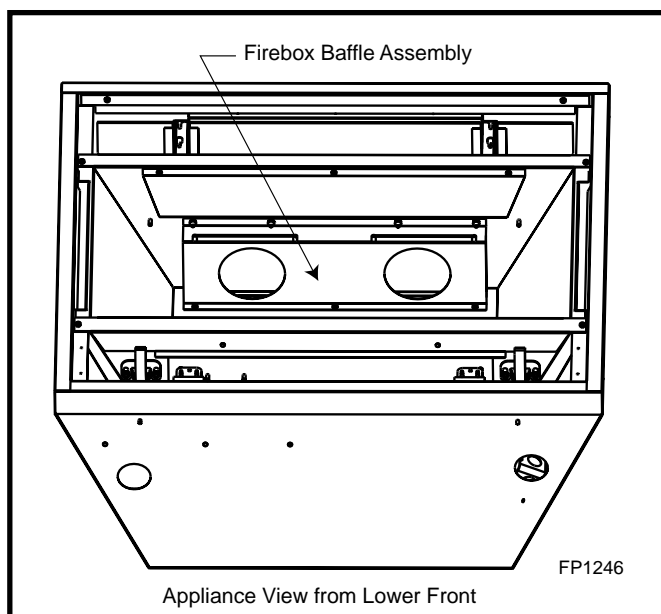
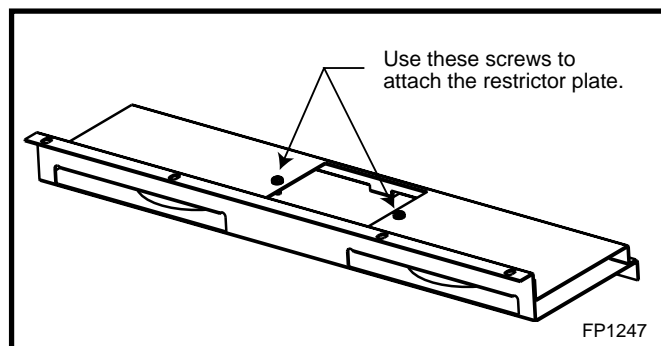
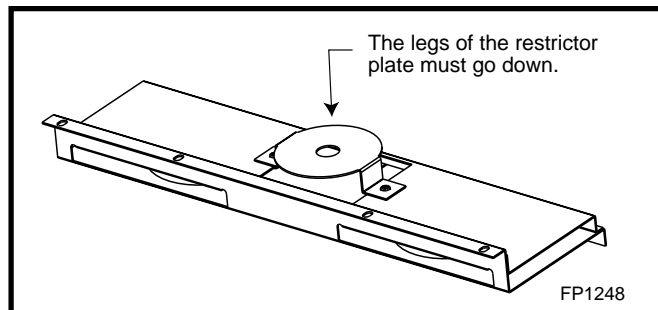

Fig. 27 Firebox baffle assembly.
Fig. 28 Remove two (2) top screws, then place restrictor plate.
Fig. 29 Place restrictor with legs pointing down.
2. Locate the firebox baffle assembly in the top rear area of the firebox. (Fig. 27)
3. Remove the four (4) nuts along the front edge, and the three (3) screws along the rear edge of the baffle assembly. Remove the baffle assembly from the firebox.
4. Remove the two (2) screws from the top face of the baffle assembly. (Fig. 28) Place the restrictor plate as shown in Figure 29 and secure by refitting the screws.